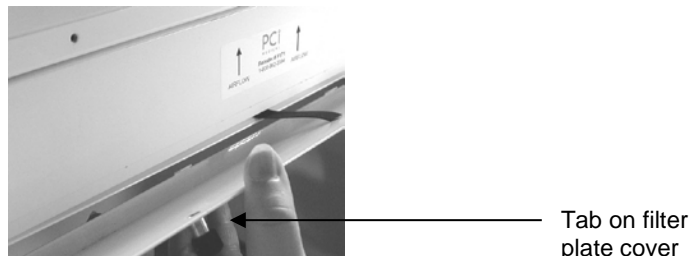

Figure 5
6. Line up the two tabs on the filter plate cover (Figure 5) with the bottom of the filter plate and push up and in. Tighten the captive nuts with the Phillips screwdriver.